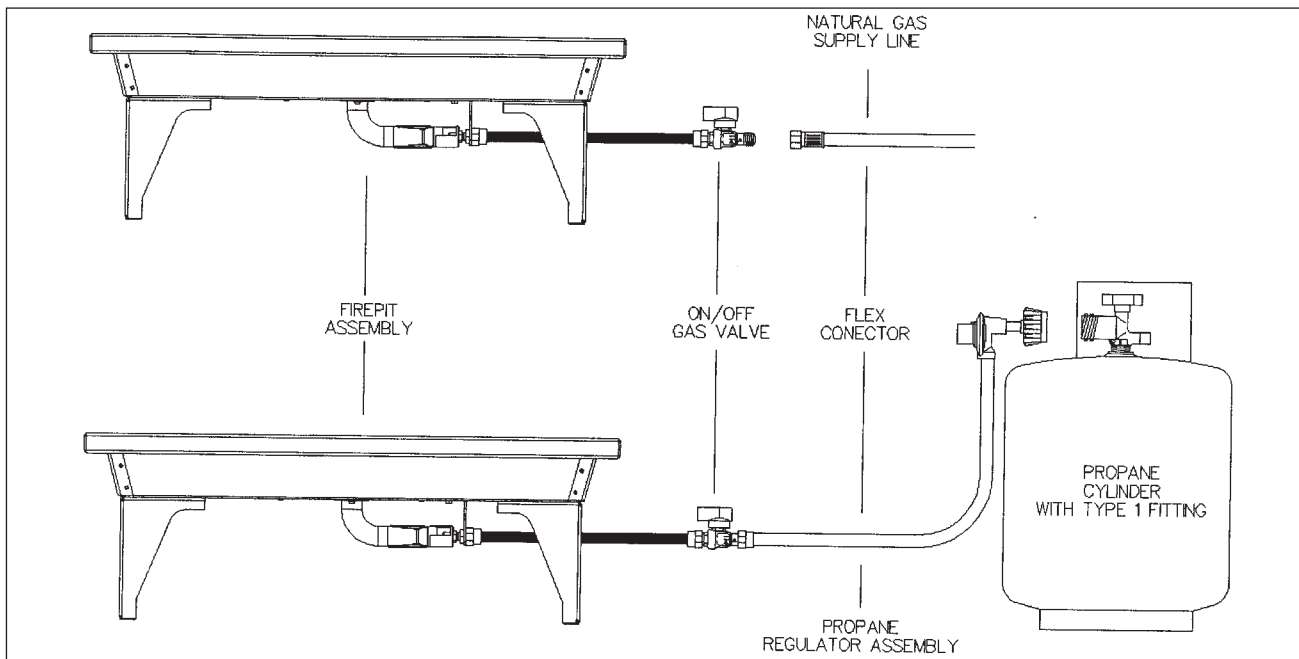

Figure 1
- C. **NATURAL GAS MODELS:** Connect the incoming gas supply line to the on/off gas valve of the appliance (Figure 1). Make certain **ALL** gas connections are tight, turn the on/off valve at the unit slowly to the on position and use soap water to test for leaks. **DO NOT USE AN OPEN FLAME.**
- Screw non-combustible shield to spacer. Shield must be placed 1" below top of firepit Fig:2-Ref:D. Inside corners of shields should not touch combustible wall. Shield must extend 3" past end of firepit Fig:1-Ref:E.
- All specifications as in corner installation must be used, including shield must extend a minimum of 3" past sides of firepit Fig:1-Ref:E.